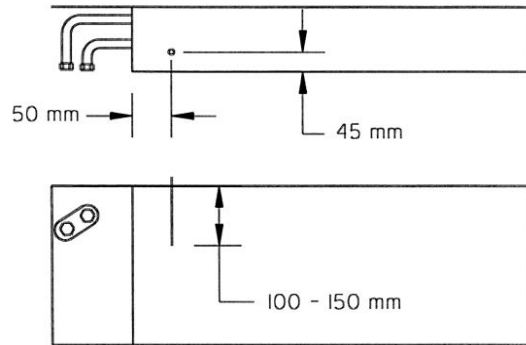

Figure 5
c) Operate engine at maximum RPM and turn blower switch to highest speed (temperature control switch should still be at maximum capacity). Measure the ambient temperature around the machine. Place a temperature probe at the louvre outlet and in the evaporator core as shown in Figure 5.